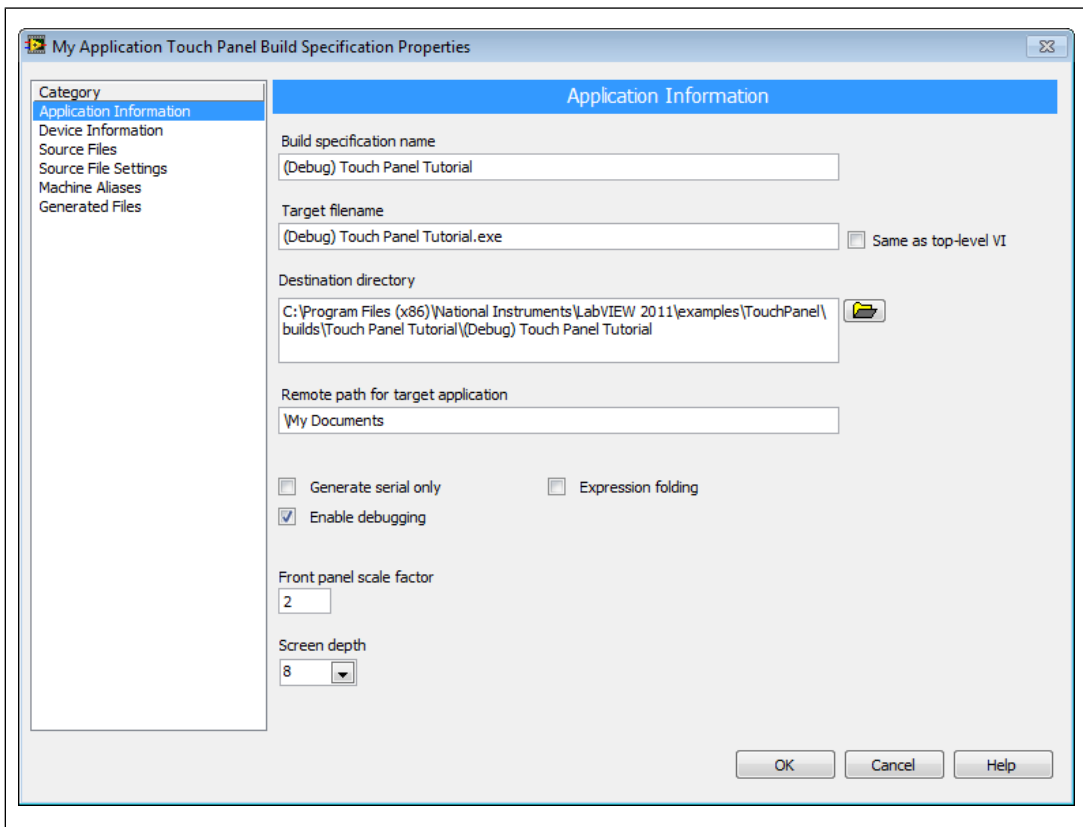

Figure 8. Creating the Debugging Build Specification
5. Place a checkmark in the **Enable debugging** checkbox to generate debugging information when you build the VI into an application, as shown in Figure 8.